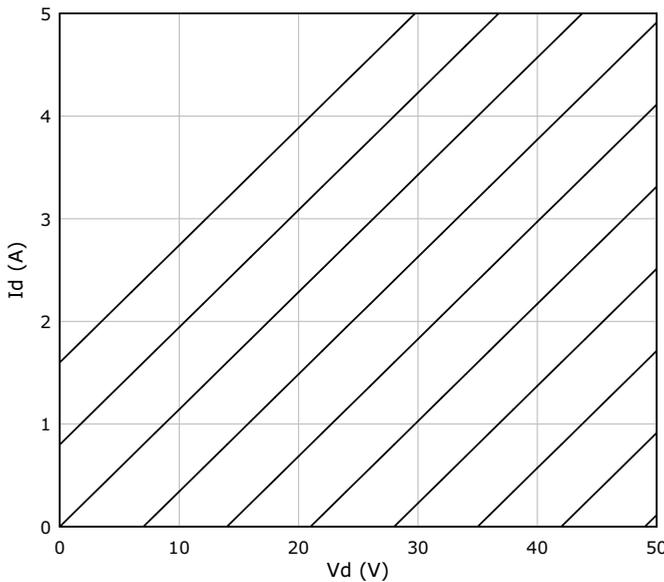

Figure 1 Power SIT curves based on equation (1)
The plate current is  $i_p$ ,  $K$  is a constant originally called perveance,  $V_g$  is the grid voltage,  $V_p$  is the plate voltage, and  $\mu$  is the amplification factor. In **Figure 1** below, I have attempted to use equation (1)